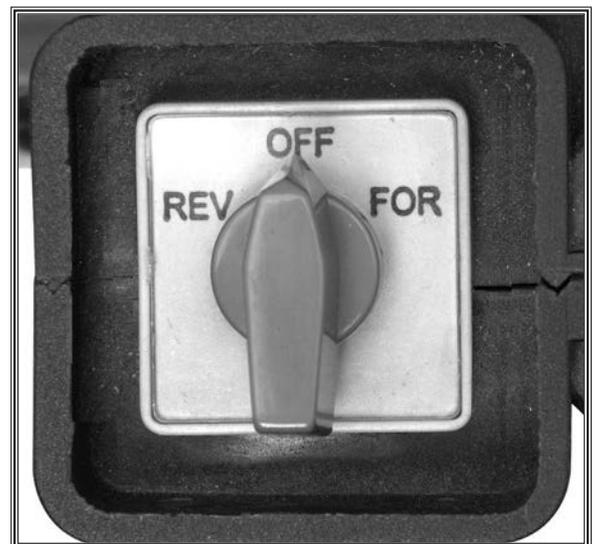

Figure 11. Feed direction switch.
6. Connect the power feeder to the power supply and use the feed direction switch (see **Figure 11**) to test operation in both **FOR** and **REV** directions.